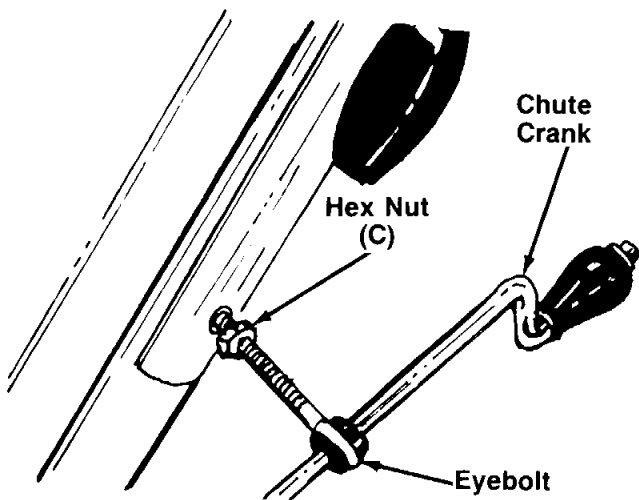

FIGURE 7.
7. Thread one hex nut (C) about halfway onto the eyebolt on the chute crank assembly. See figure 7.
8. Place the eyebolt into the lower hole in the left handle and handle panel. See figure 7. Secure with belleville washer (D) (cupped side against the handle panel) and hex nut (C). Do not tighten until after attaching the other end of the chute crank (step 14).